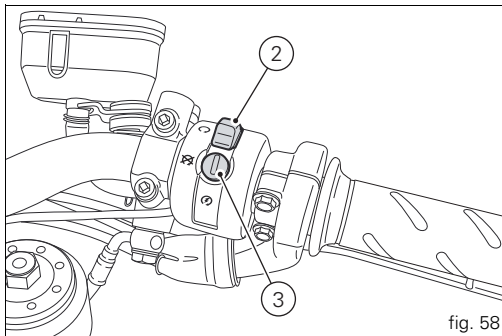

fig. 58
- 2) Check that the stop switch (2, fig. 58) is positioned to  (RUN), then press the starter button (3, fig. 58).